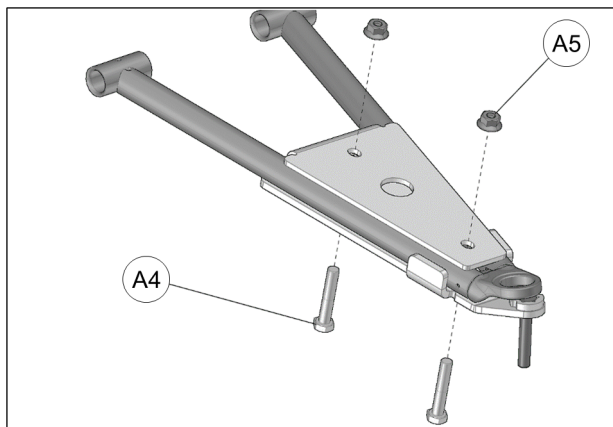

Fig. 19
- Insert the M10x55 mm bolts (**A4**) through the bottom and secure the two parts together with the nuts (**A5**) provided. Tighten assembly to 50 N•m [37 lb•ft] of torque. See Fig. 19